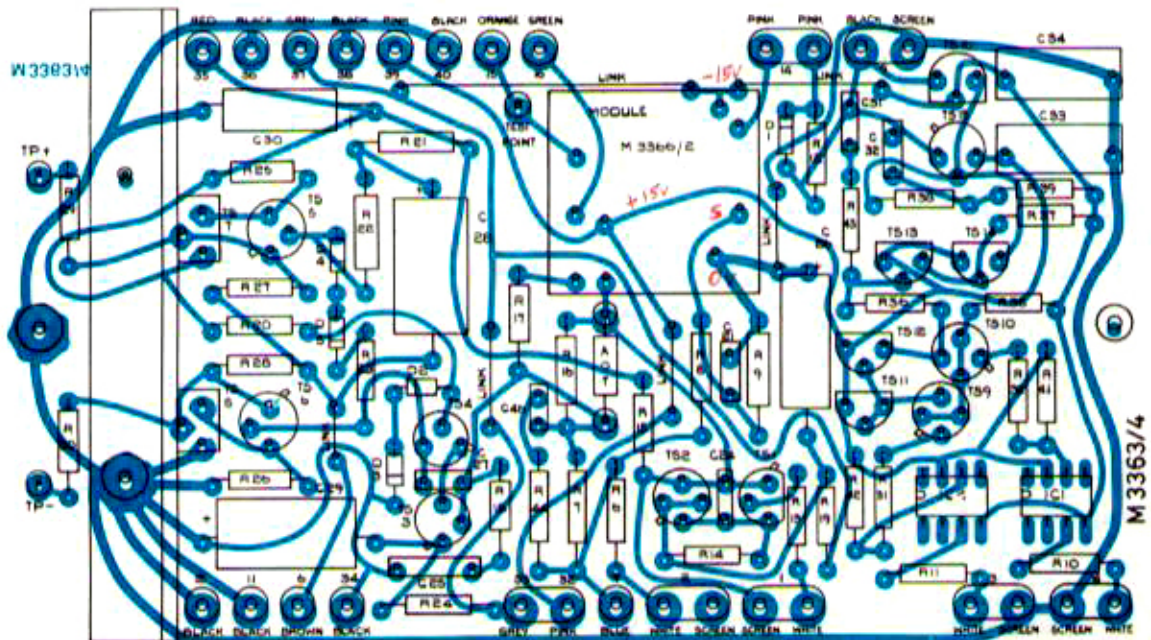

Fig. 7c Oscillator amplifier. Circuit diagram.
- Fig. 7c Oscillator amplifier. Circuit diagram. Module M3363/4